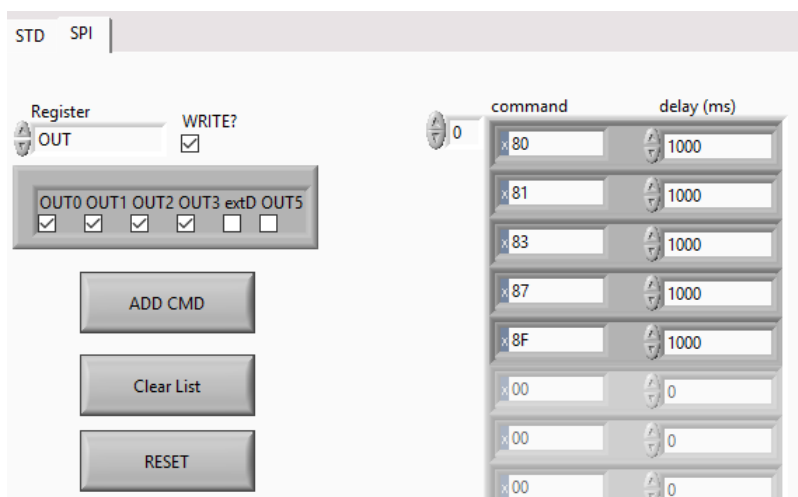

Figure 26 - repeat until all OUTs (OUT0-OUT3) are selected
- Repeat the last three steps until you reach OUT₃ (See Figure 26)